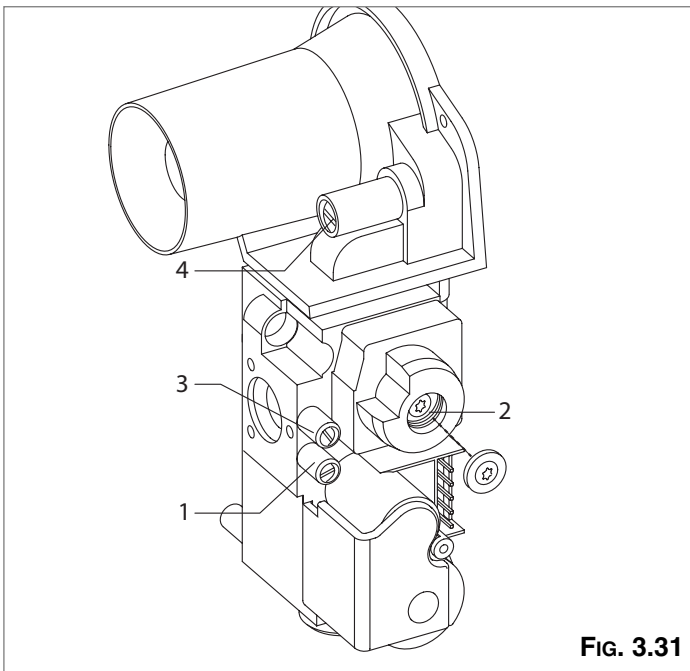

Fig. 3.31
1. Loosen screw "1" (Fig. 3.31) and connect the pressure gauge connection pipe into the test point.
2. Set the boiler to minimum power via the test function (see paragraph 3.6.1) or by pressing the **RESET** button for 5 seconds and then pressing the **-** button on the control panel, ensure the dashes are at the bottom of the display (see Fig. 3.28). Ensure the CO₂ value on the analyser corresponds with the value indicated in table 4D. If this is not the case, adjust screw "2" (Fig.3.31) with a screwdriver in small intervals, allowing the reading to become stable before adjusting further, until you obtain the correct CO₂ reading. Allow the reading to become stable for at least 4 minutes.
3. When the check is over, replace the cap on screw "2" (Fig. 3.31).
1. With the combustion analyser already connected to the analysis point, set the boiler to maximum power via the test function (see paragraph 3.6.1) or by pressing the **RESET** button for 5 seconds and then the programming keys **+** and **-** ensuring the dashes are at the top of the display (see Fig. 3.29). Ensure the CO₂ value on the analyser corresponds with the value indicated in table 4D. If this is not the case, adjust screw "4" with a screwdriver in small intervals allowing the analyser reading to stabilise before adjusting further (Fig. 3.31), until you obtain the correct CO₂ reading. Allow the reading to become stable for at least 4 minutes.